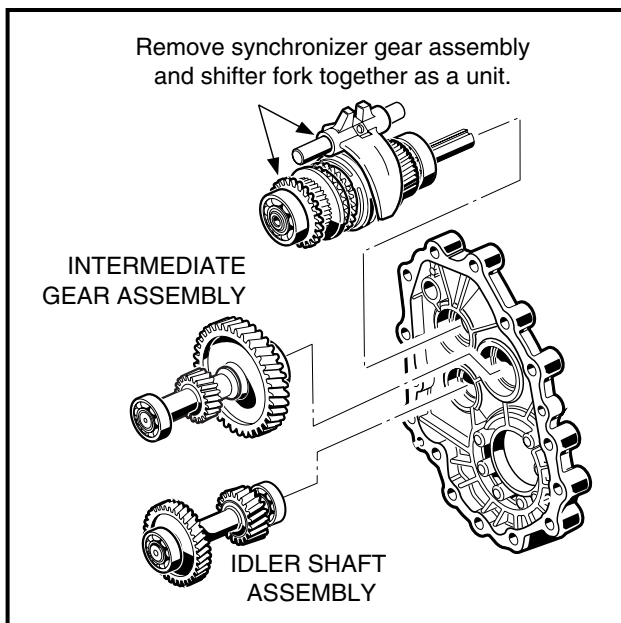

Figure 6-8 Remove Intermediate Gear
9. Continue to rock and loosen the remaining gear assemblies until the intermediate gear assembly can be removed from the case. Then remove the idler shaft assembly (**Figure 6-8, Page 6-5**).
10. Remove the synchronizer gear assembly and shifter fork assembly as a unit (**Figure 6-8, Page 6-5**).